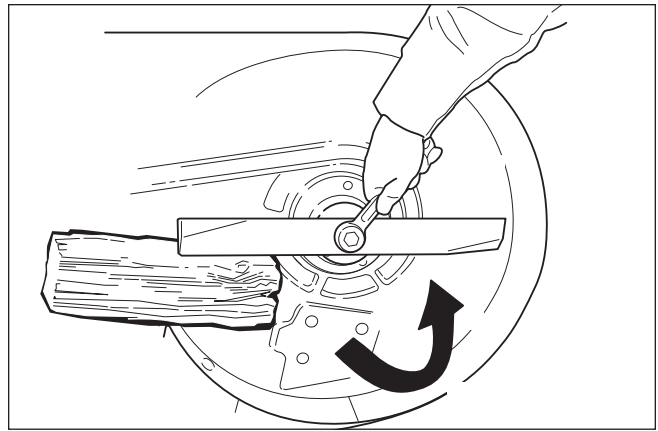

Figure 24. Loosening the Mower Blade for Removal
1. To remove the mower blade, wedge a wooden block between the mower blade and the mower deck housing to keep the blade from turning and remove the mower blade mounting bolt with a 15/16" wrench (Figure 24).